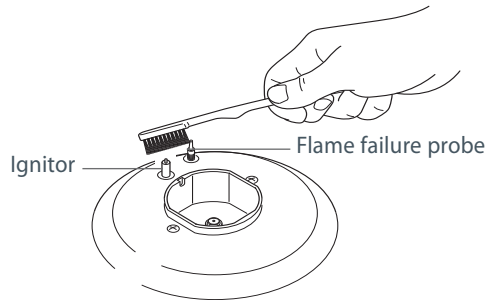

Fig. 21 Cleaning the probe and ignitor
- The ignitors are sparking. If the ignitors are not sparking, they may be dirty or wet. Clean them with a toothbrush and methylated spirits, as shown in Fig.21.